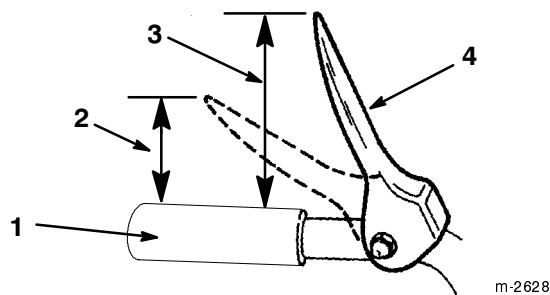

Figure 10
5. Check the distance between the top of the handgrip and the bottom of the auger/impeller drive control lever. The distance should be approximately four inches (10.2 cm) (Fig. 10).
Note: The amount of force to compress the lever increases noticeably when you remove the slack from the drive belt (approximately one-half of the lever movement). The adjustment is correct when the force **begins** to increase and the distance between the top of the handgrip and the bottom of the auger/impeller drive control lever is two inches (5 cm) (Fig. 10).